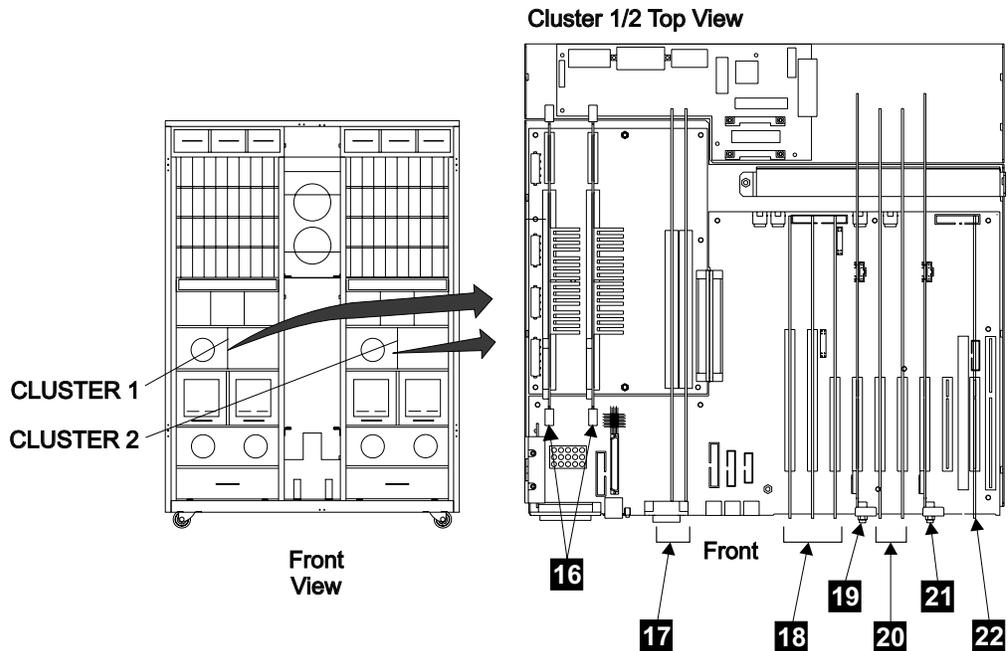

Figure 186. Cluster Bay Card Locations (S008246n)
- 332 MHz CPU cards **16**, in Figure 186 on page 176. disconnect cables from left side of cards first. See, "332 MHz CPU Card Removal and Replacement, Cluster Bay (E10/E20)" on page 185
- Memory cards, **17**, in Figure 186 on page 176. See, "Memory Card Removal and Replacement, Cluster Bay (E10/E20)" on page 187